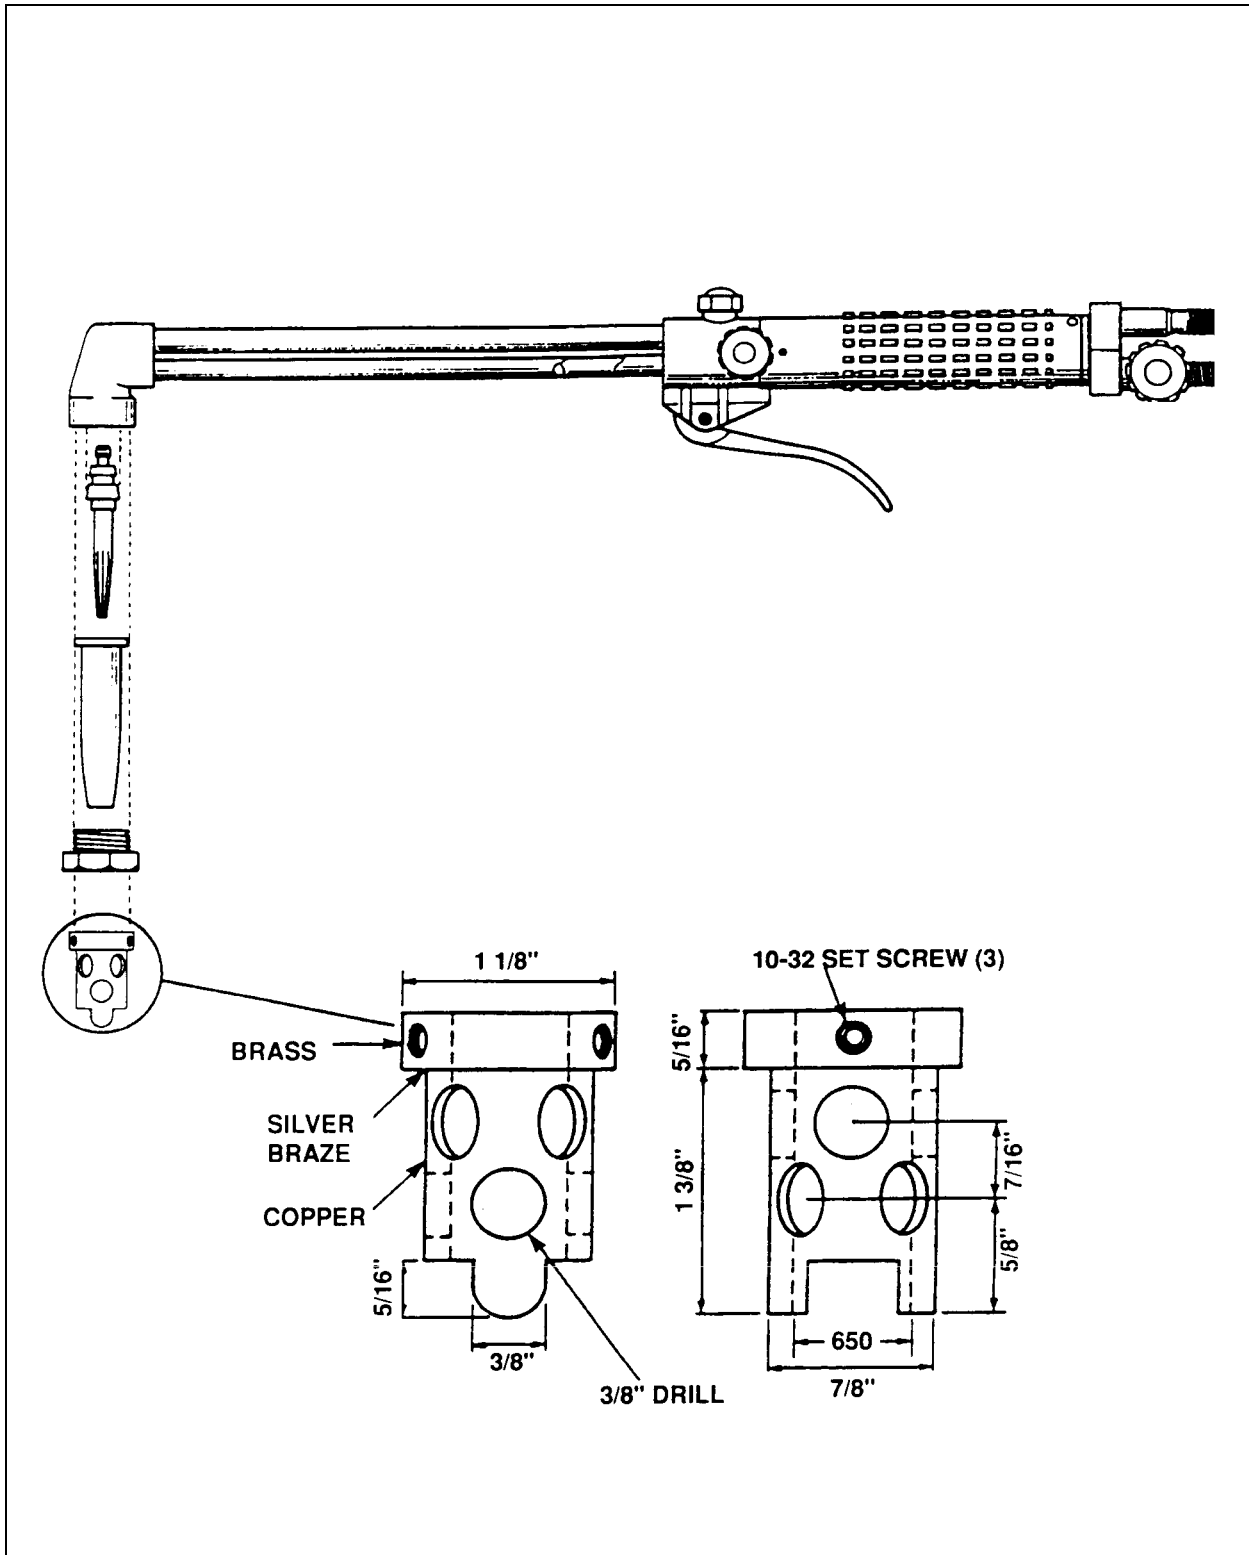

Figure E-4. Standard Surface Cutting Torch with Underwater Spacer Sleeve.
**E-4.5 Underwater MAPP Gas Cutting Torches.** A standard oxy-acetylene oxygen cutting torch can be used for cutting with MAPP gas underwater. Figure E-4 shows a standard surface cutting torch with the underwater spacer sleeve, controls for oxygen and MAPP gas, the cutting oxygen control and the FS or stinger cutting tip. The torch must be attached to hoses which carry the gases and the torch is clearly marked so that the oxygen hose and the MAPP gas hose will be connected with the proper gas passages within the torch. As an additional safeguard, the threads which connect each of the hoses are not compatible, so that a hose carrying MAPP gas would not fit the connection to an oxygen passage.
As illustrated in Figure E-4, the cutting tip is a two-piece, standard pressure tip with a fine spline which fits onto the standard acetylene oxygen cutting torch. Selection of the proper tip size depends on the thickness of the metal; refer to Table E-4 for the proper size to be used with various plate thicknesses. The cutting tip has a preheat perimeter which is equally divided into 18 to 26 milled slots and displaces water more evenly than the 8 holes of the standard pressure tip. For that reason, the cutting tip preheats faster and gives quicker starts. It is especially recommended when cutting is to be done with a tip spacer sleeve.
The spacer sleeve, shown in Figure E-4 clamps over the cutting tips and is used to keep the cutting tips at the proper distance from the work, which should be a minimum of 3/16 inch and a maximum of 1/4 inch for the cutting tip. This sleeve should also be perforated to allow water to circulate around the cutting tip.
The gas controls typically incorporated in the cutting torches are shown in Figure E-4. The torch is to be connected to the hoses and the working pressure must then be set. Before seating the cutting tip, purge the torch with each gas separately.